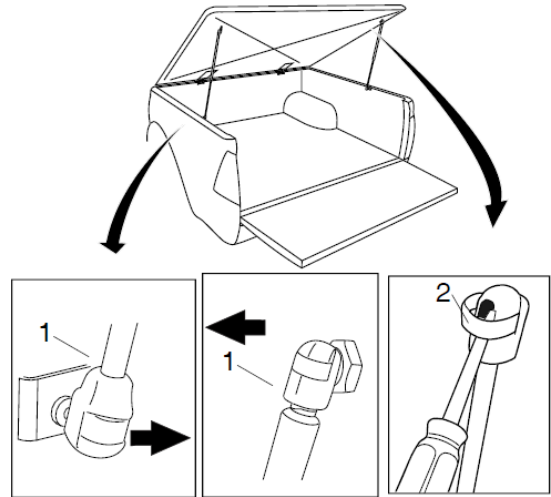

FIGURE 2
1. Open tonneau cover. Disconnect harness at front Header bar. Detach gas strut (1) by inserting a small screwdriver and adjusting the spring clip (2) on the gas strut(1). Refer to figure 2.